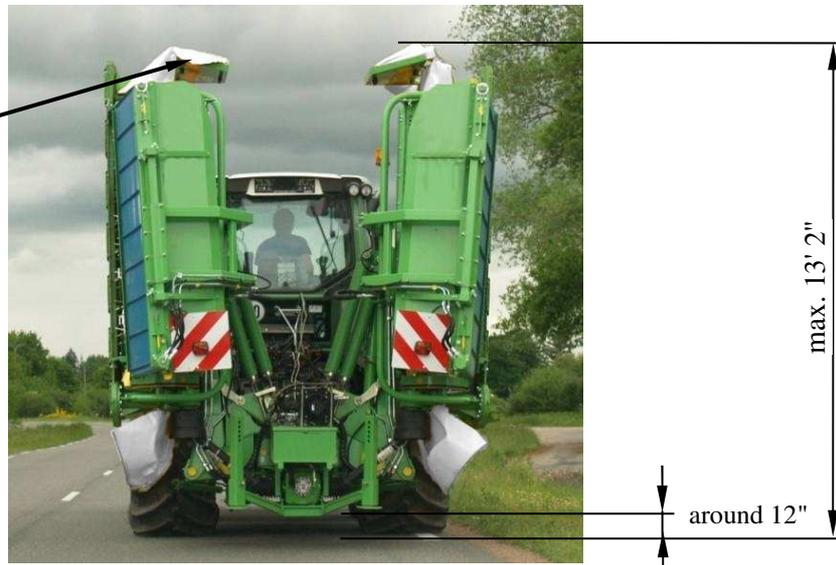

Fig. 21. SaMASZ double-sided mower in its transport position
- lift the mower with a hydraulic lift, so that the tractor's lower links are about 30 cm from the ground (**Fig. 21**),
- lower the transport height on the tractor links, so it does not exceed 4 m (**Fig. 21**),
Do not drive on public roads if the machine's transport height is more than 13' 2" (when transported, transport height should be lowered on the tractor links – **Fig. 21**).